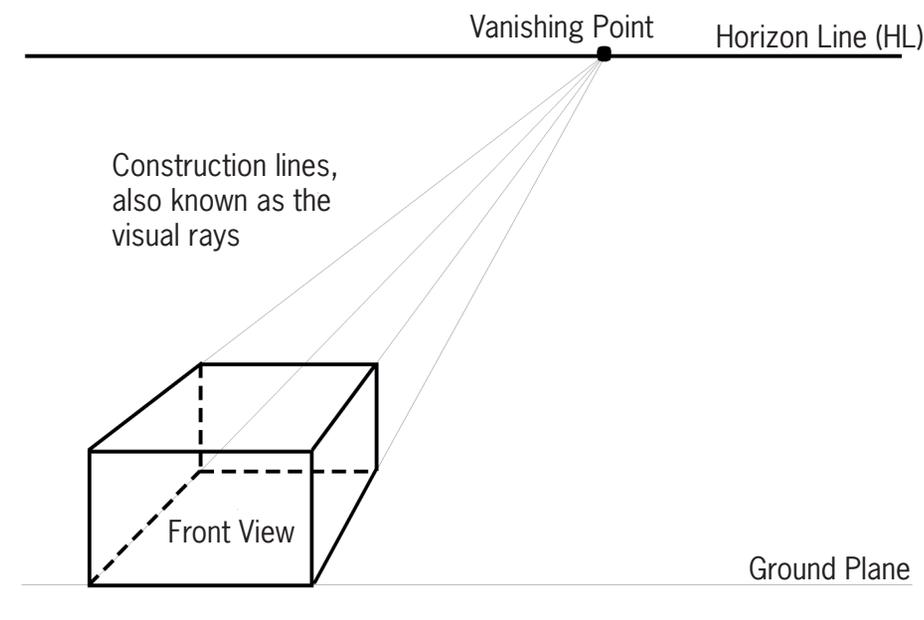

Figure 3
In Grade 7, you learnt how to draw a box in single vanishing point perspective, as shown in Figure 3 below.
4. Make your own double vanishing point perspective drawing of a block. Draw in your solid lines, as indicated on the block drawing in Figure 3.